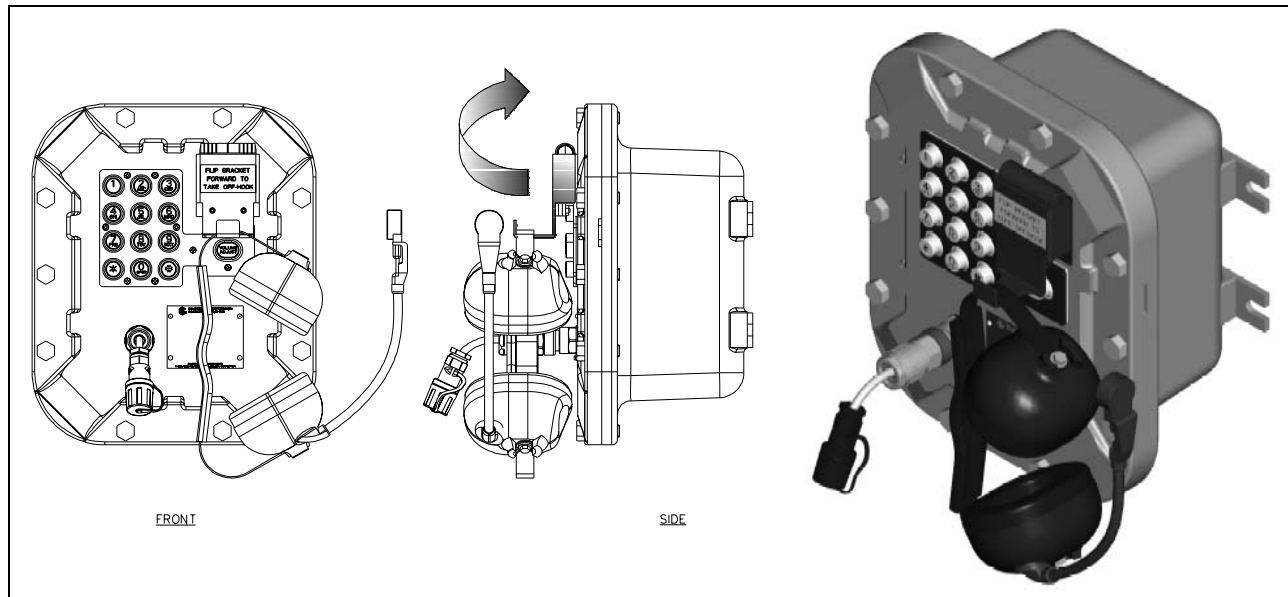

Figure 12.
2. To place a call, remove the headset from the headset activation bracket and flip the headset bracket forward to its preset position. See Figure 12.